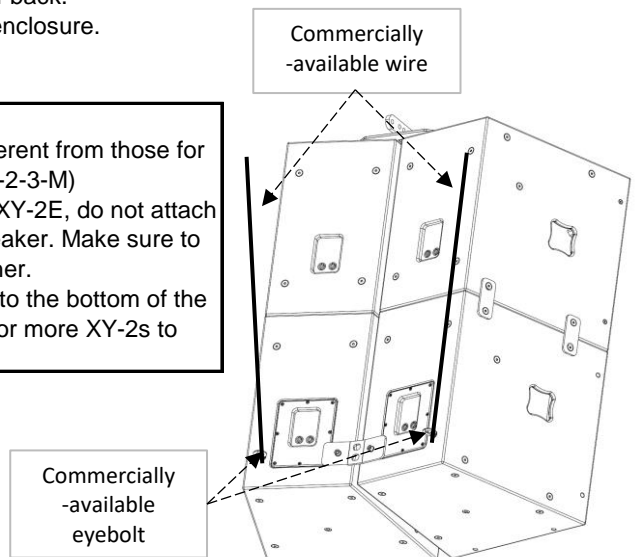

Fig.3-2-4-M
- (4) Ensure the two or more commercially-available eyebolt are secured to mounting point on the top of each enclosure to suspend it with wire as a secondary safety feature. (Fig.3-2-4-N)